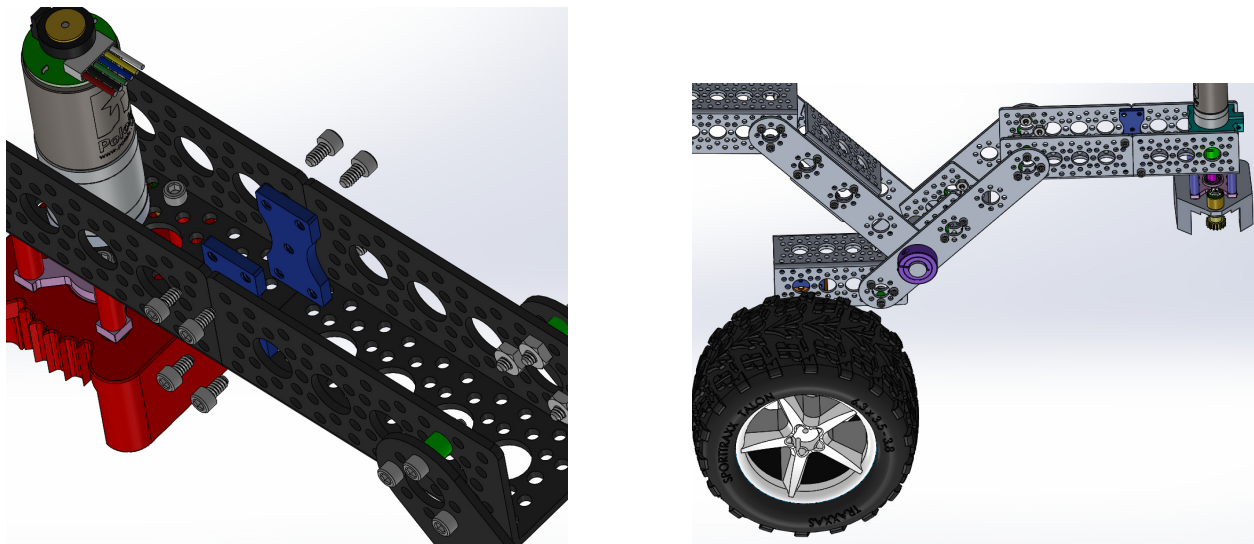

Figure 4: Attaching the corner steering assembly
1. Attach one of your corner steering assemblies to the rocker bogie assembly using channel connectors **S6** and screws **B1** as shown in Figure 4. Make sure that you pick a corner steering assembly that has the encoder facing outwards (on the same side as the middle wheel from the previous step).